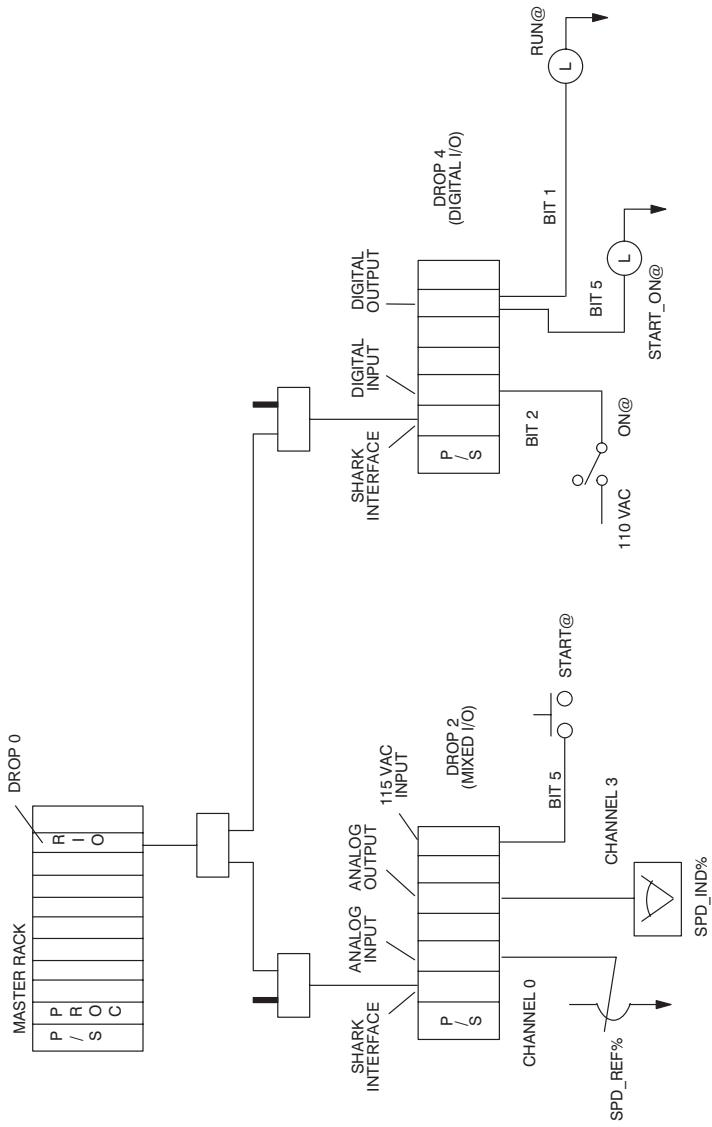

Figure 4.4 - Sample Coaxial Cable Remote I/O Network With Shark Rack Drops
The sample programs that follow reference the physical points illustrated in figure 4.4.
The following is an example of a configuration task for the Remote I/O network in figure 4.4. The two variables, DO_CFG% and DO2_CFG_RDY@, are used to configure drop 2. It is not necessary to configure drop 4 since it is an all digital rack as specified by the setting of the Shark Interface module's rotary switch to the "C" position.
The following is an example of a Ladder Logic task for the Remote I/O network in figure 4.4. This task verifies that both slave drops are on-line before application tasks use the speed reference value.
The following is an example of a BASIC task for the Remote I/O network in figure 4.4. The task is composed of three main sections. The first section, lines 1300 to 1500, checks to see if network drops 2 and 4 are recognized by the master. If they are not recognized, the program will continue to loop until they are. The second section, lines 2400 to 2500, configures drop 2. This is done by writing to variable D02_CFG%, the configuration register. Once the configuration word has been written, the configuration ready bit (10) is set. Note that drop 4 does not need to be configured in this way since it is an all digital rack. The last section of the task, lines 3300 to 3700, simply writes the analog input value SPD_REF% to indicator SPD_IND%. If either drop 2 or drop 4 malfunctions, the program will go to line 300 and wait for the affected drop to recover.